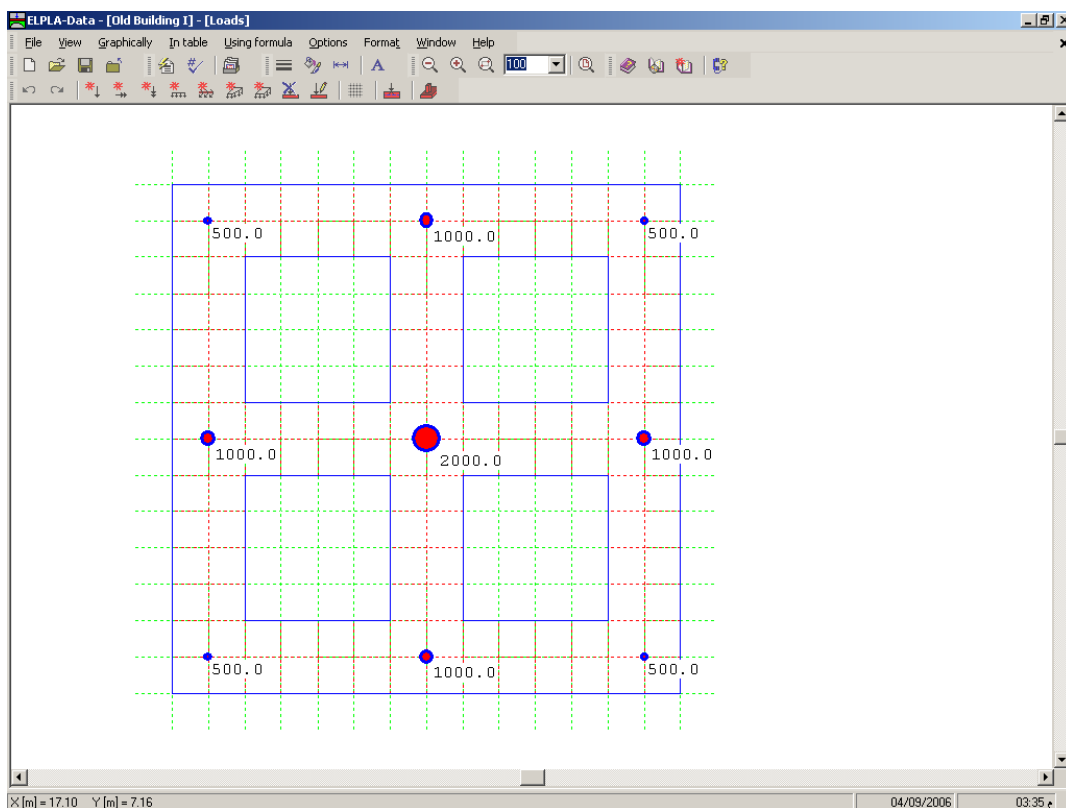

Figure 9-29 Loads on the screen
After you have completed the definition of all load data, the screen should look like the following Figure 9-29.
- Choose "Save loads" command from "File" menu in Figure 9-29 to save the load data
- Choose "Close loads" command from "File" menu in Figure 9-29 to close the "Loads" embedded program and return to the main window of *ELPLA-Data*